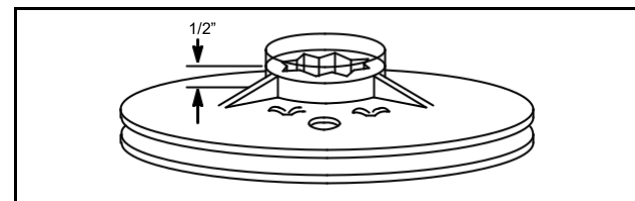

Fig. 612 – PULLEY MODIFICATION
**NOTE:** The sealed clutch may be installed on older model engines, by modifying the starter pulley and crankshaft. The old pulley can be made to fit the new clutch by cutting off the hub to a dimension of 1/2" as shown in Fig. 612.